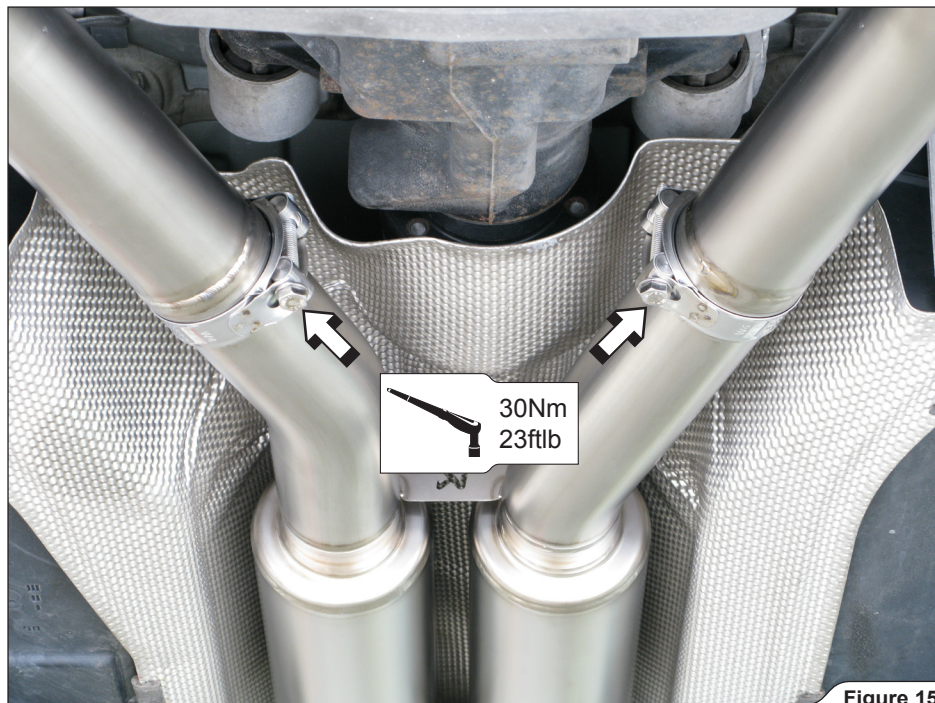

Figure 15
7. **For Evolution:** slide the muffler pipes all the way onto the Akrapovič middle pipes and tighten the clamps to a specified torque (**Figure 15**).